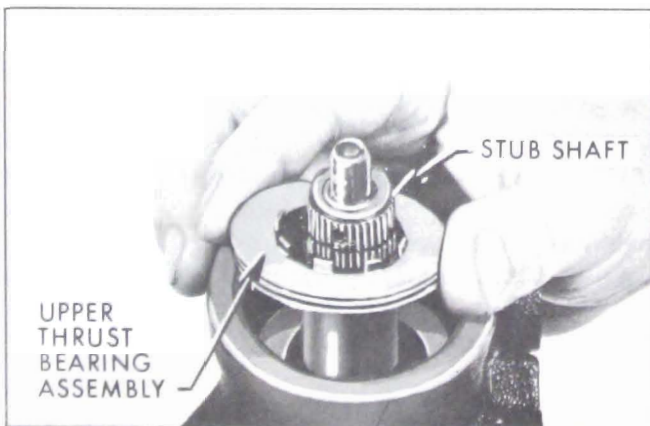

Figure 8-43—Installing Upper Thrust Bearing Assembly
2. Install upper thrust bearing assembly on valve assembly with tangs of race pointing away from valve. See Figure 8-43.